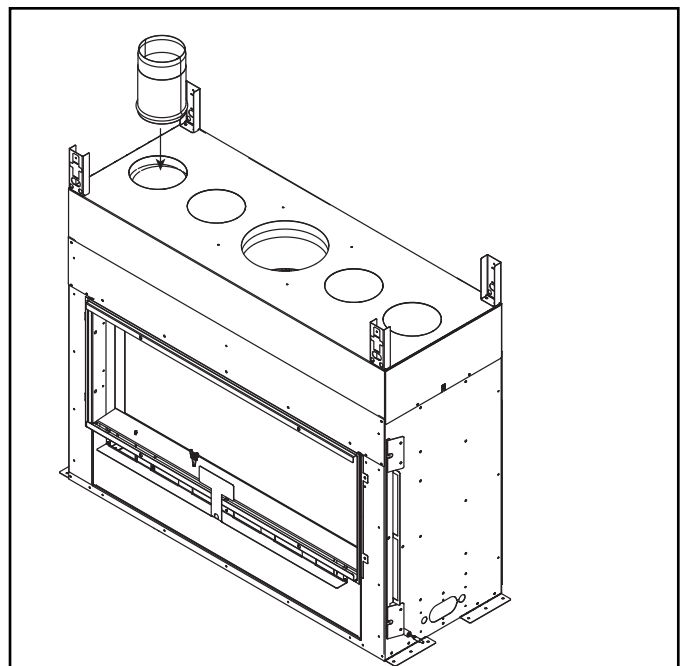

Figure 6.5 Heat-Zone-Gas Linear Adapter Collar
- Center the duct collar around the exposed hole and attach it to the appliance. See Figure 6.5.
The HZLIN-ADP adapter kit is required for use with the Heat-Zone-Gas Kit and is necessary when the optional Heat-Zone-Gas Kit is installed on the CRAVE-C models. See Figure 6.5.